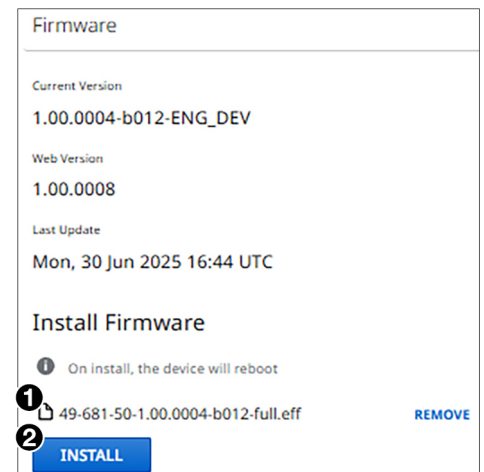

Figure 39. Firmware Install Panel
3. Double-click the firmware file name. The Open window closes, and the selected firmware file name appears in the Update Firmware panel on the web page (see figure 39, ①).
4. Click **INSTALL** (②) to begin.